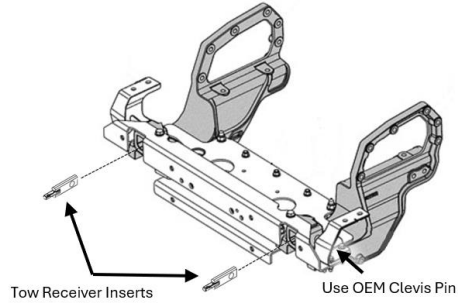
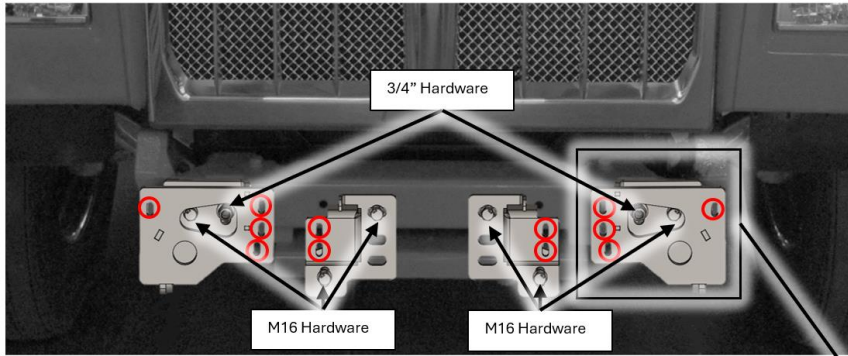
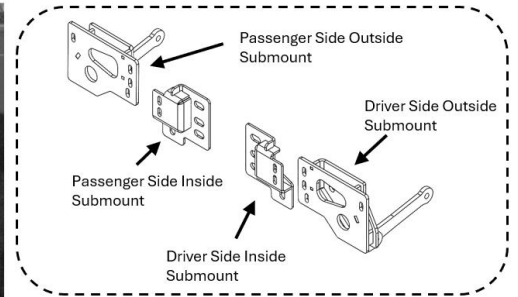
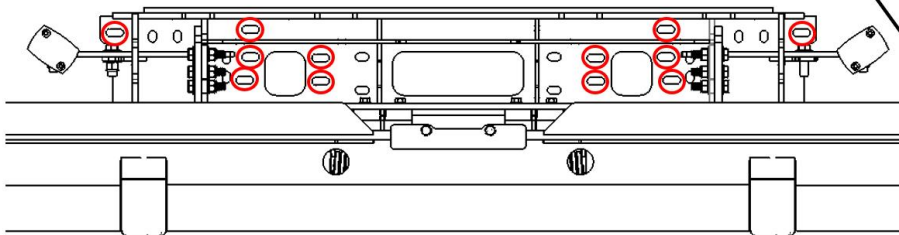

Figure 2b: Tow Receiver Insert Installation
Figure 2d: Main Bracket Mounting
Figure 2c: Submount Diagram
Figure 2e: Driver Side Submount Installation
2. Identify which Tow Receiver Inserts will be used for your installation; see Figure 1a. Install the Tow Receiver Inserts into the truck's tow receivers; see Figure 2b. Secure the Inserts using the OEM clevis pins.
3. Install the Herd Driver Side Outside Submount and secure it to the crossmember using the provided M16 Hardware and 3/4" Hardware to the Tow Receiver Insert; see Figure 2c and Figure 2d. Secure the Herd Driver Side Outside Submount to the side of the trucks' frame using the OEM bumper side fastener shown in Figure 2e.
4. Install the Herd Driver Side Inside Submount to the frame using the provided M16 Hardware, as shown in Figure 2c. Repeat Steps 3 and 4 for the Passenger Side Outside and Passenger Side Inside Submounts respectively. See Figure 2b for Submount identification.
5. Lift the Main Bracket and Truck Guard (opened) assembly and mount it to the truck. Fasten the Main Bracket to the HERD Submounts using the provided 1/2" Hardware in the red circled locations shown in Figure 2d.